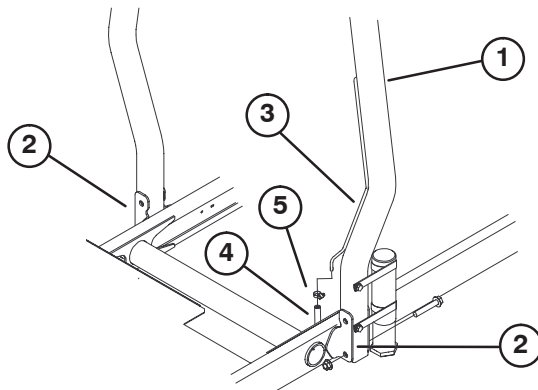

Figure 7
2. Secure each side of roll bar to mounting brackets with (2) flange head capscrews and locknuts (Fig. 7). Torque fasteners to 60 ft-lbs.